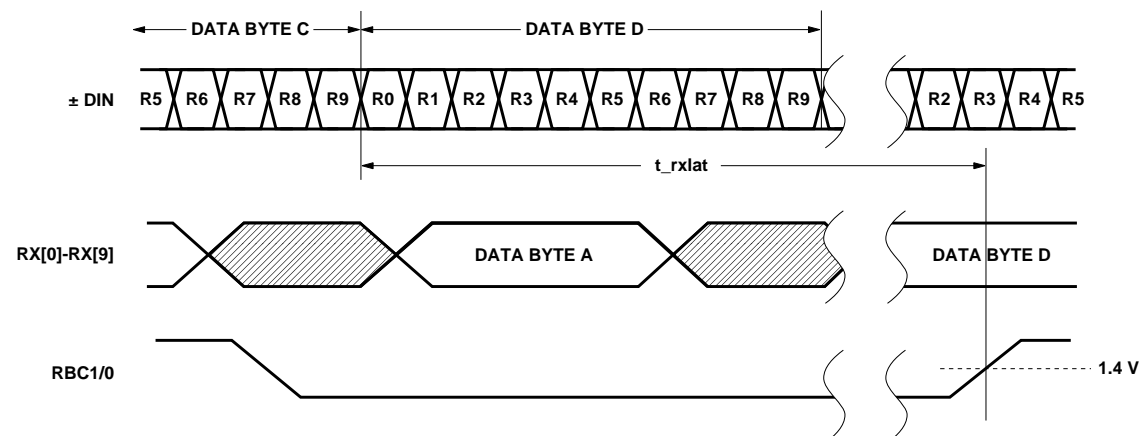

Figure 6. Receiver Latency.
3. The receiver latency, as shown in Figure 6, is defined as the time between receiving the first serial bit of a parallel data word (defined as the first edge of the first serial bit) and the clocking out of that parallel word (defined by the rising edge of the receive byte clock, either RBC1 or RBC0).